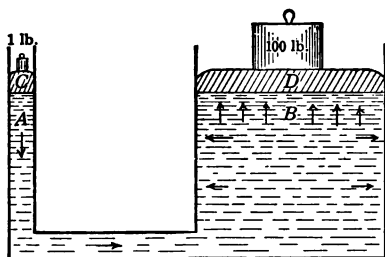

FIG. 21. — Pressure is transmitted equally in all directions.
a small piston which fits the opening in a closed vessel filled with water can equal the force of a hundred men who push against a piston of 100 times the area. See Fig. 21. He
33. Transmission of Liquid Pressure Used to Multiply Force. From Pascal's law, we are led to the following conclusion: If *A* of Fig. 21 has an area of 1 sq. in. and *B* an area of 100 sq. in., a weight of 1 lb. lying on the piston *C* will just balance a weight of 100 lb. on the piston *D*. A force *slightly* in excess of 1 lb. acting downward on the small piston will lift the weight of 100 lb. upon the large piston. From these observations, it is easy to see how it is possible to construct a mechanical device for multiplying force.